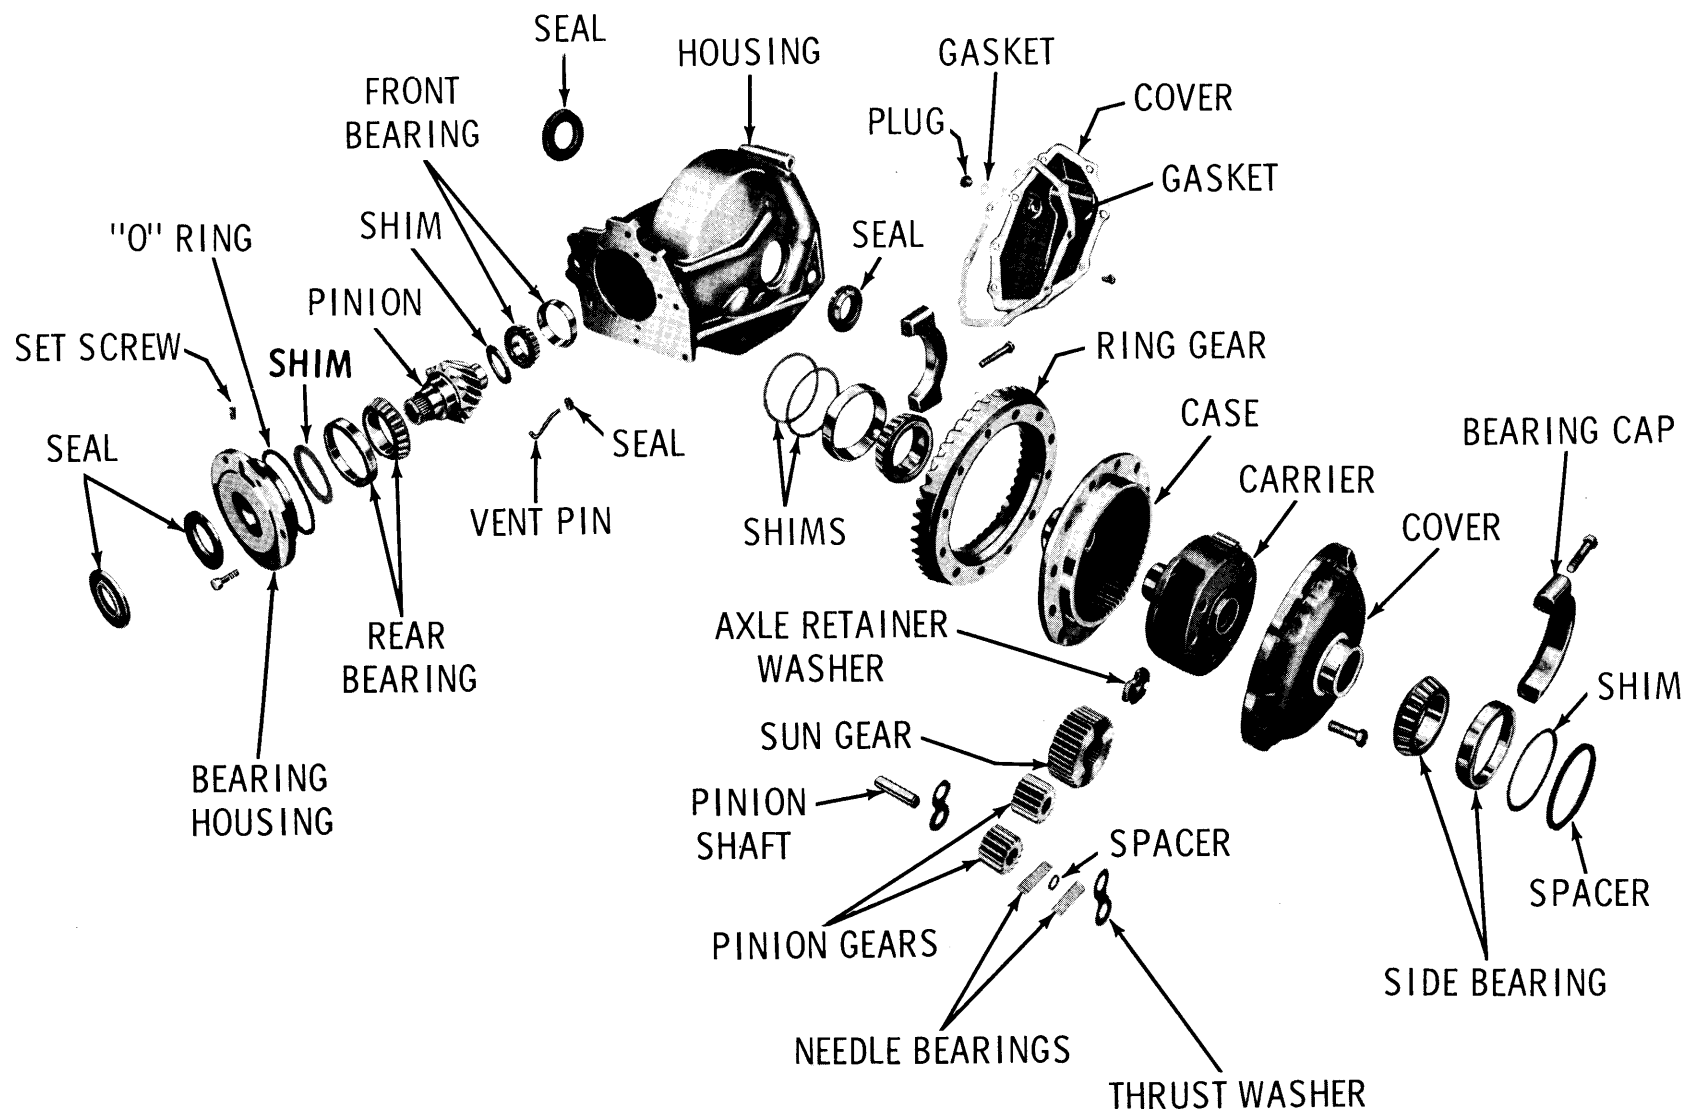

Fig. 3EC-17 Final Drive Assembly
15. Install bolts "A", "B", and "C" and nut "D". (Fig. 3EC-11) Torque all final drive to transmission bolts to 25 ft. lbs. Torque nuts to an approximate 25 ft. lbs.